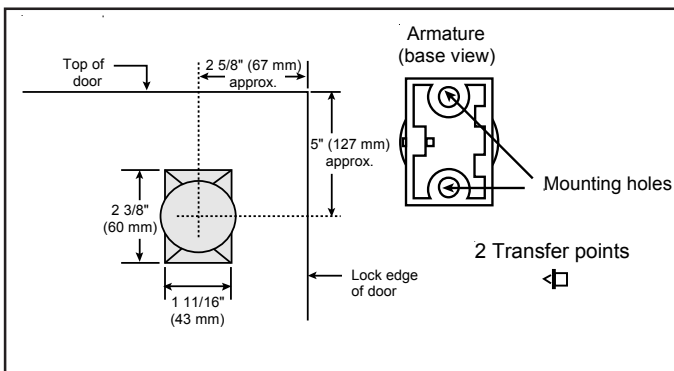

Figure 4. Mounting the Armature Assembly
**NOTE:** Armature assembly must be mounted vertically (Figure 4) to obtain correct alignment with the electromagnet.
- Place the transfer marking points in the armature mounting holes (Figure 4).